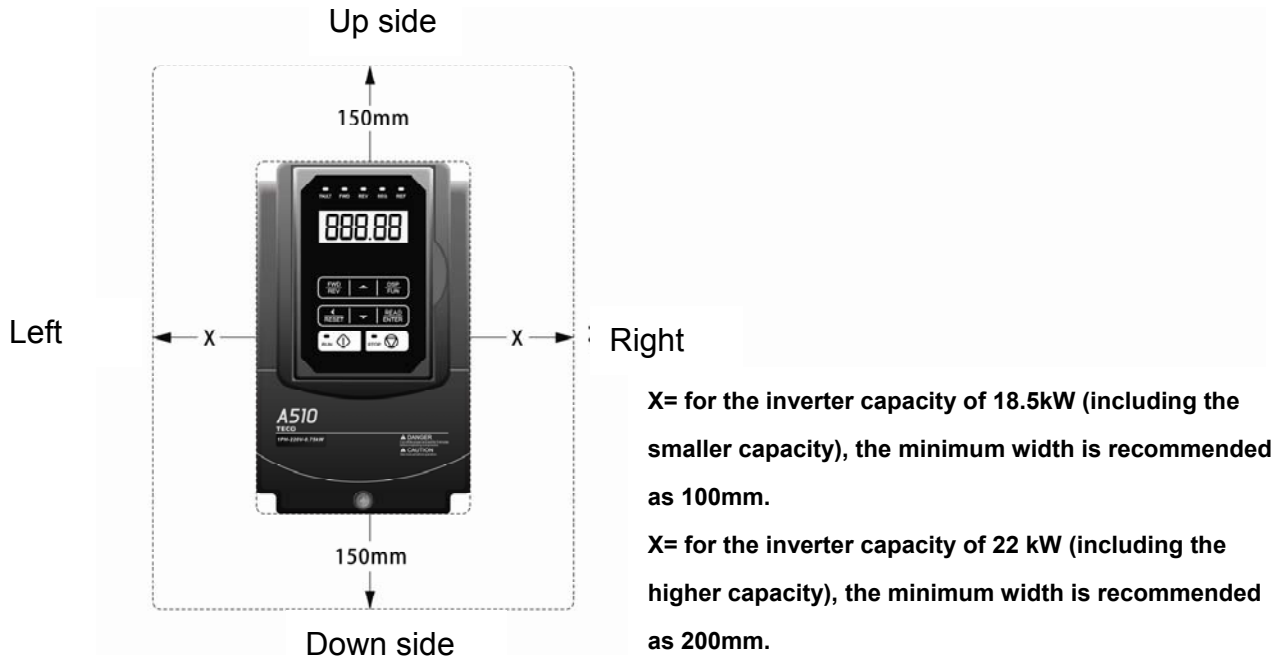

Figure 3.1 A510 Installation Space
- (1) Please install the A510 inverter in vertical direction, leaving enough space to ensure the cooling effect, shown in Figure 3.1.